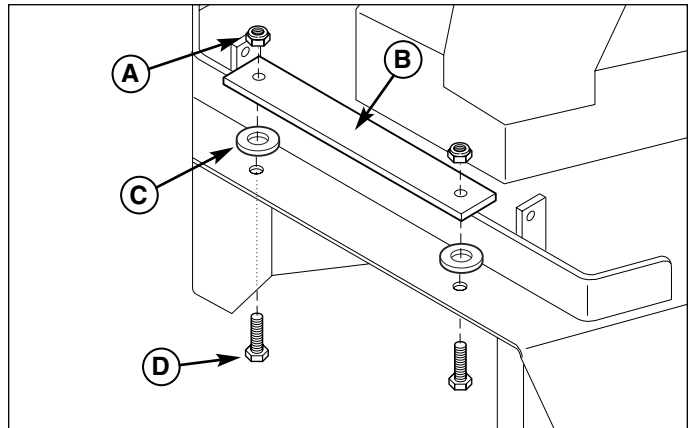

Figure 9. Install Quick Connect Bar
5. Install the spacers (C, Figure 9) and mount bar (B) on the mower deck and secure with the 5/16-18 x 1-1/4" bolts (D) and 5/16-18 nylon lock nuts (A).